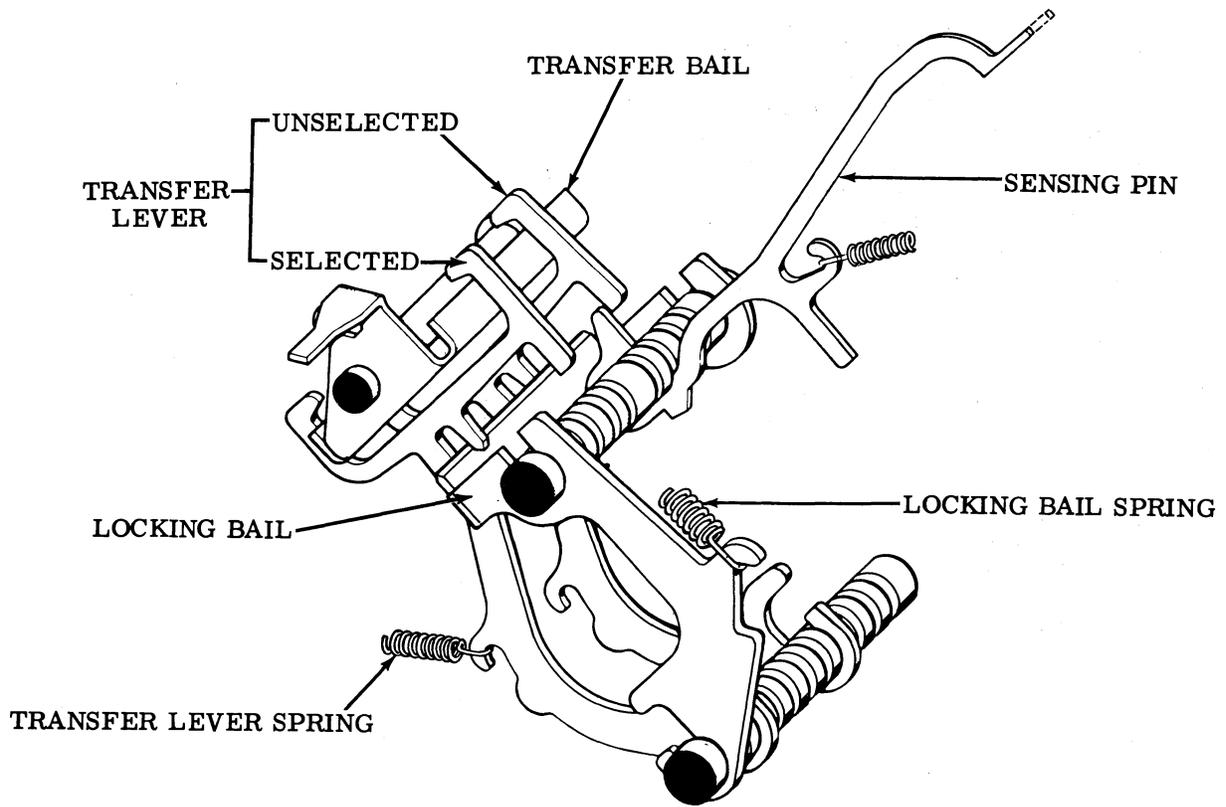

Figure 11 - Locking Bail and Transfer Lever Mechanisms
4.05 In rotating upward, the transfer lever extensions are brought above the line of action of the blade on the locking bail. If any of the sensing pins do not sense a perforation in the tape, the associated transfer levers remain stationary. The extensions on these transfer levers remain below the line of action of the locking blade on the locking bail (Figure 11).
4.07 As the camshaft continues its rotation, the high part of the locking bail cam moves away from the locking bail and permits the locking bail to be pulled up by its spring. In its upward travel, the locking blade of the bail is positioned between the lower extension of the selected transfer levers and locks them into position (Figure 11).